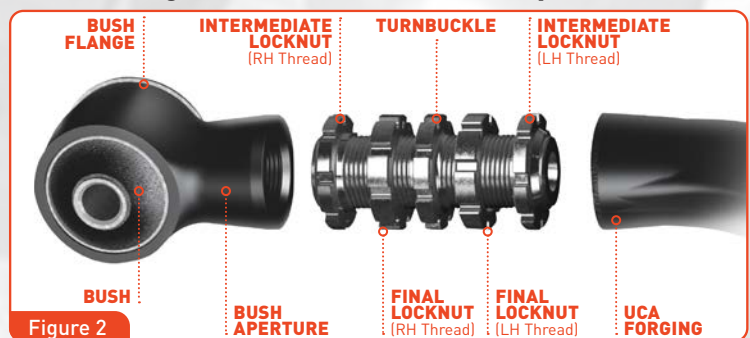

Figure 2
See Figure 2.
- f. Tighten the final locknut (Right hand thread) against the arm to approximately 40 Nm. **See Figure 2.**